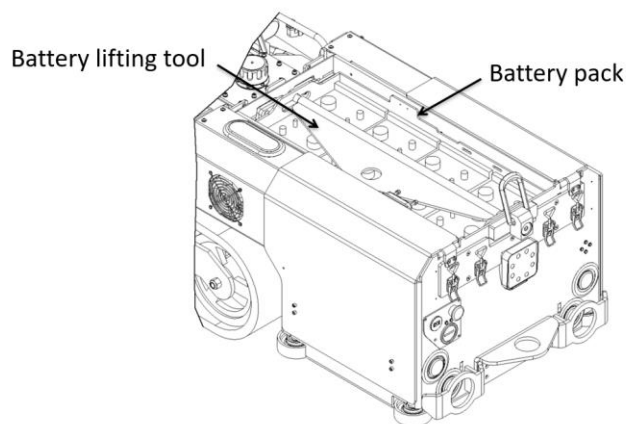

Figure 12 : Removing the battery (electric cables not shown for clarity)
2. Insert the battery lifting tool into the battery pack and slowly lift it out of the machine (see Figure 12). Repeat this step for the second battery pack if necessary (depending of the model).
- b. Insert the battery lifting tool into the battery pack and slowly lift it out of the machine (see Figure 12). Repeat this step for the second battery pack if necessary (depending of the model).